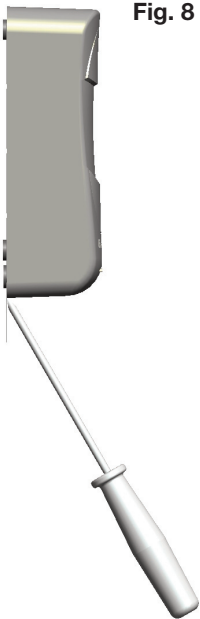

Fig. 8
- 1) Insert a screwdriver into the slot made in the central bottom side of the cover (see Fig. 8).